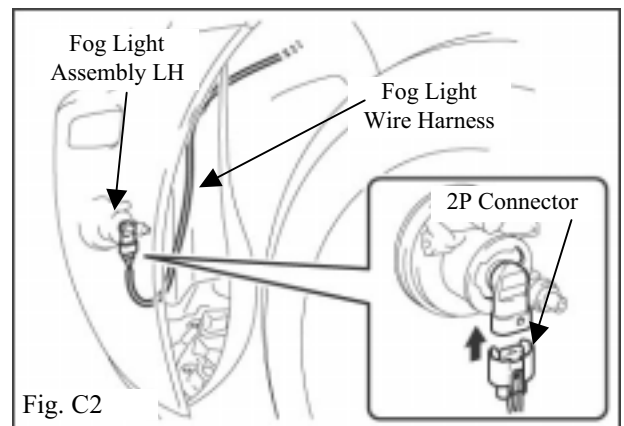

Fig. C2
4. Connect the 2P connector (fog light wire harness) to fog light assembly LH. (Fig. C2)